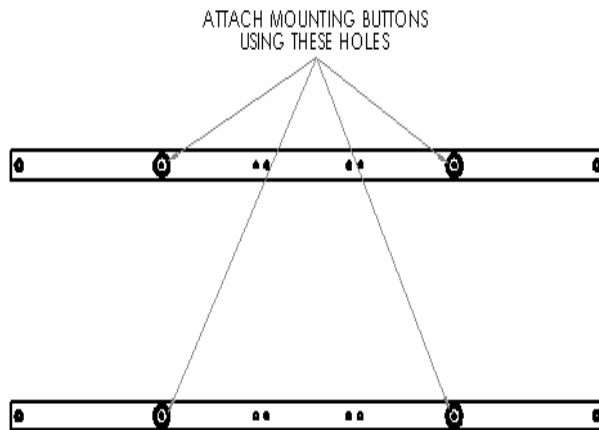
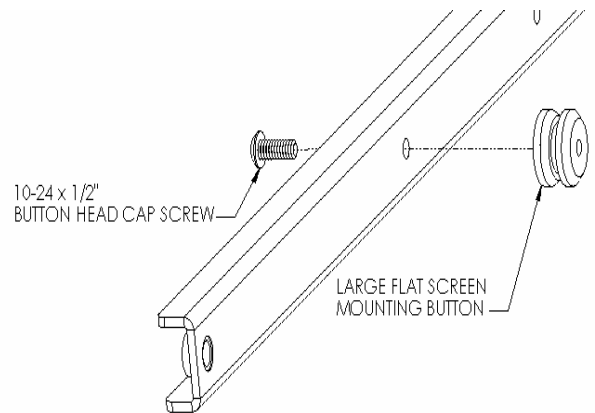

Figure 1
Figure 2
1. Using a 10-24 button head cap screw inserted from back side of *center* brackets, secure mounting button with chamfered hole of mounting button (larger surface) facing bracket, to bracket (4 places) (see Figure 1 and Figure 2).